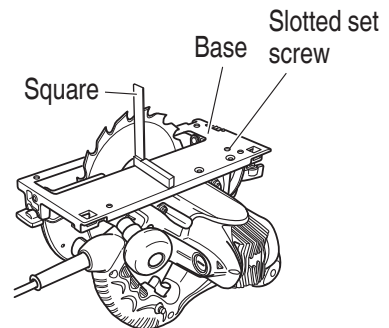

Fig. 15
(1) Turn the base face up (Fig. 15) and loosen the wing-nut and wing-bolt (Fig. 5, 6 on page 24).
(2) Apply a square to the base and the saw blade and turning the slotted set screw with a slotted-head screwdriver, shift the position of the base to produce the desired right angle.